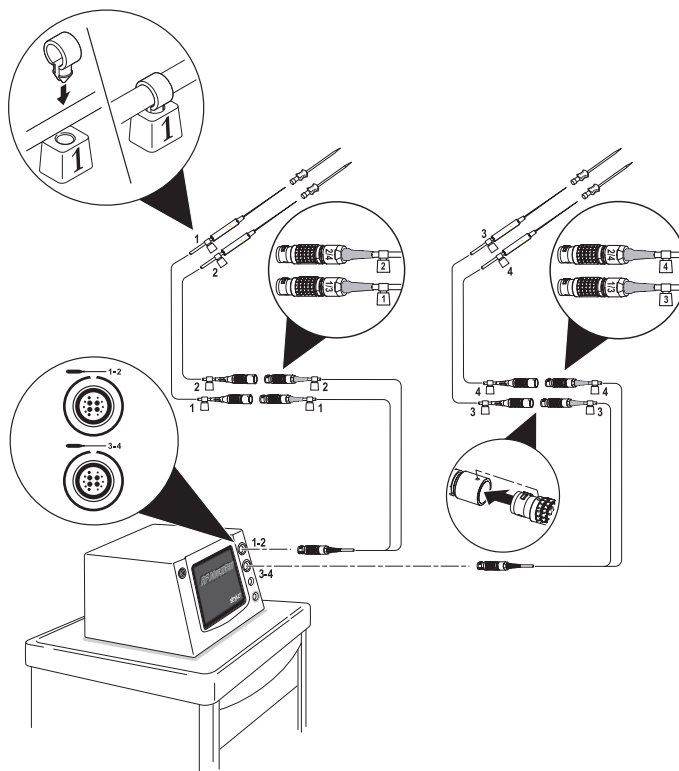

Figure 5 Cable Identification Tags
1. Slide the cable loop over and onto the cable. See figure 5 for suggested placement locations of the tags.